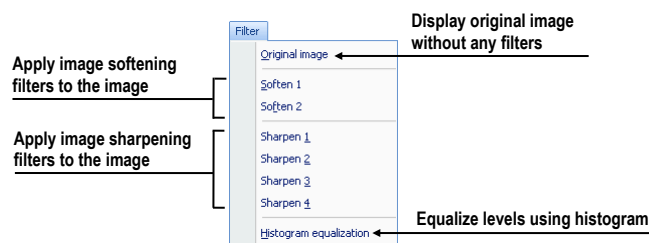

Figure 36 – Filter menu
- **Filter** - filters for softening or sharpening of image in the current view (see Figure 36).